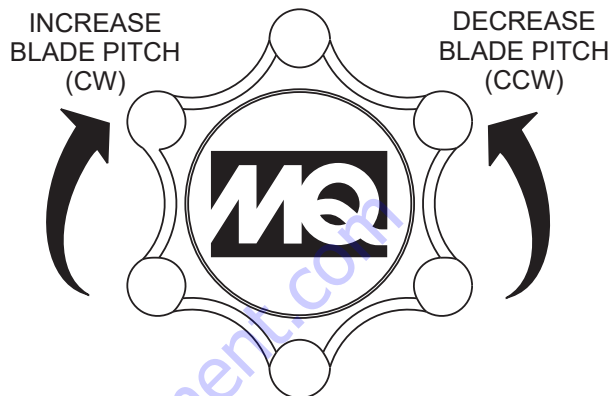

Figure 12. Blade Pitch Cable Adjustment (Standard Handle)
1. For trowels equipped with a **standard** handle (SXH), turn the star wheel **counterclockwise** to release tension on the blade pitch cable. See Figure 12.